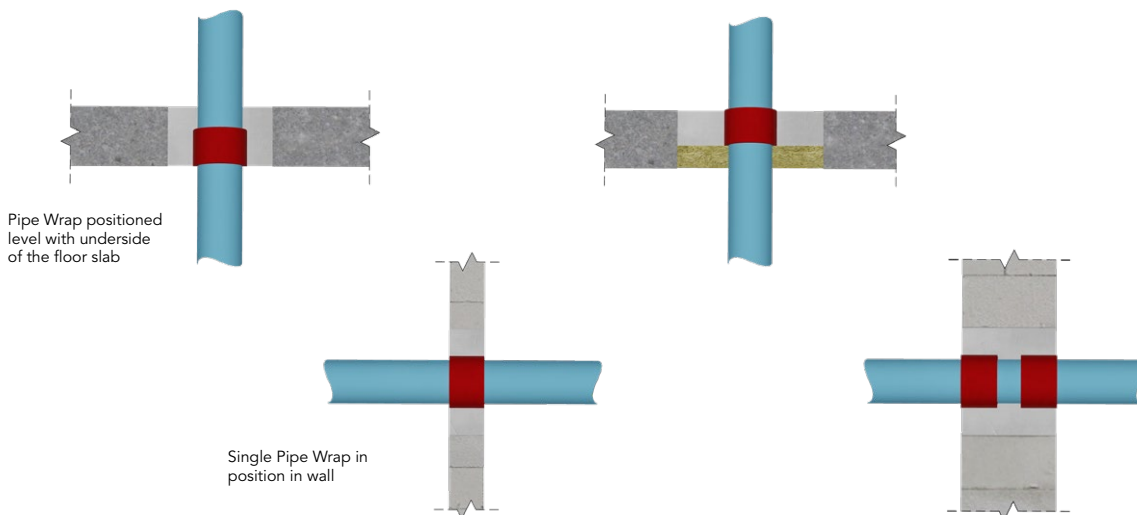

Figure 3
4. Slide into position ensuring that the bottom edge is exposed in a floor slab and both edges are exposed in a wall. Two wraps may be necessary when the wall thickness exceeds 100mm (See Figure 3).